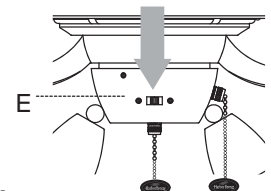

Fig. 3
3. Use the fan reverse switch, located on the light kit fitter (E), to optimize your fan for seasonal performance. [Fig. 3]